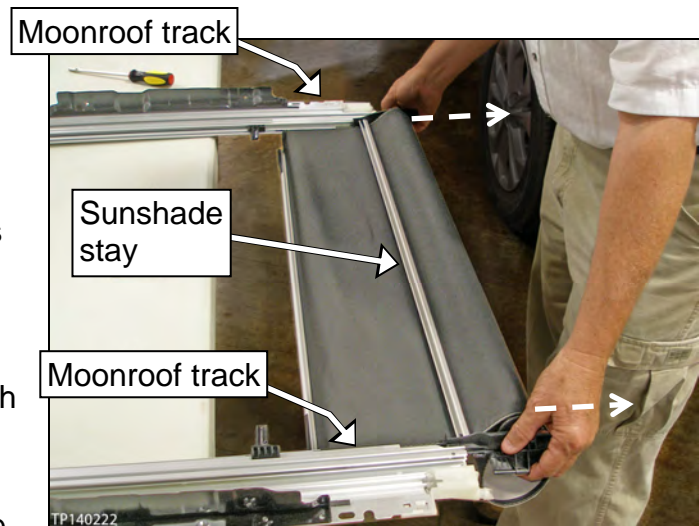

Figure 6
- a. Grab both shade bases and the ends of the shade, and then pull evenly (see Figure 6).